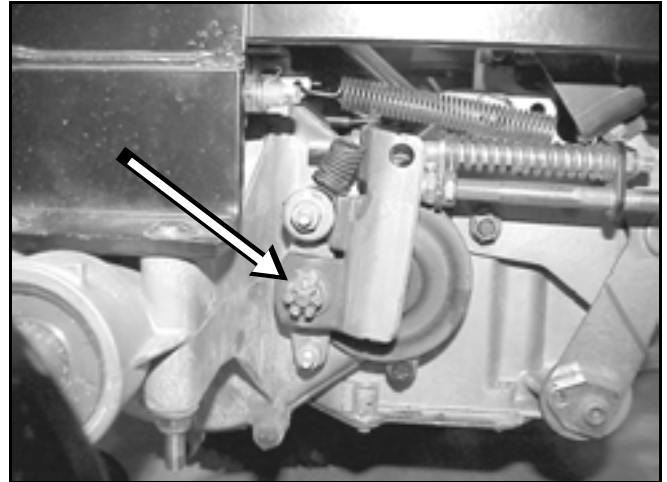

Figure 145
3. To adjust the brake, remove the cotter pin and loosen the castle nut slightly (Figure 145).